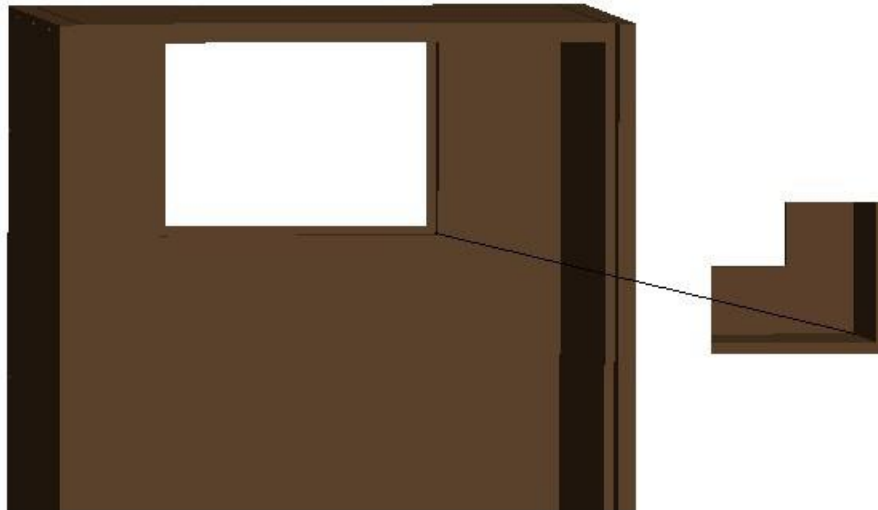

Fig. 2.1 REAR CUTOUT
- Cut a rectangular inside opening at the rear of the cabinet with the 1/4" clearance inwards to the width and height of the cooling unit. Make 1/2" lip to place the gaskets (see Fig. 2.1).